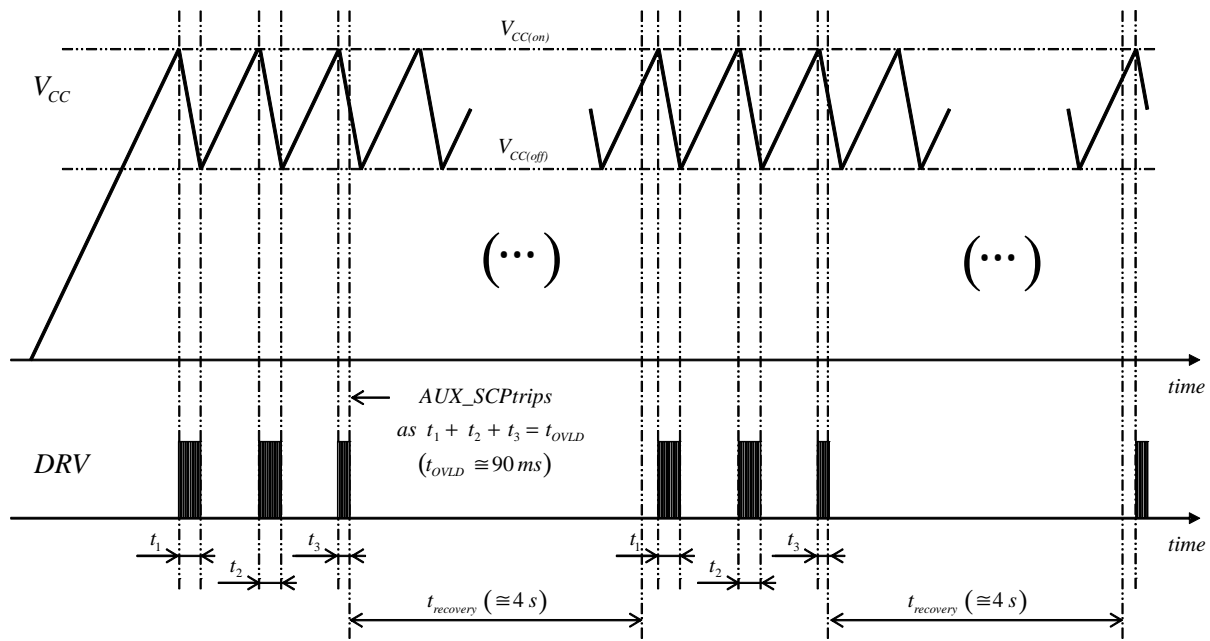

Figure 60. Start-up Sequence in a Load Short-circuit Situation (auto-recovery version)
- If the load is shorted, the circuit will operate in hiccup mode with V_{CC} oscillating between $V_{CC(off)}$ and $V_{CC(on)}$ until the AUX_SCP protection trips (AUX_SCP is triggered if the ZCD pin voltage does not exceed 1 V within a 90-ms operation period of time thus indicating a short to ground of the ZCD pin or an excessive load preventing the output voltage from rising). The NCL30185A latches off in this case. With the B version, the AUX_SCP protection forces the 4-s auto-recovery delay to reduce the operation duty-ratio. Figure 60 illustrates a start-up sequence with the output shorted to ground, in this second case.